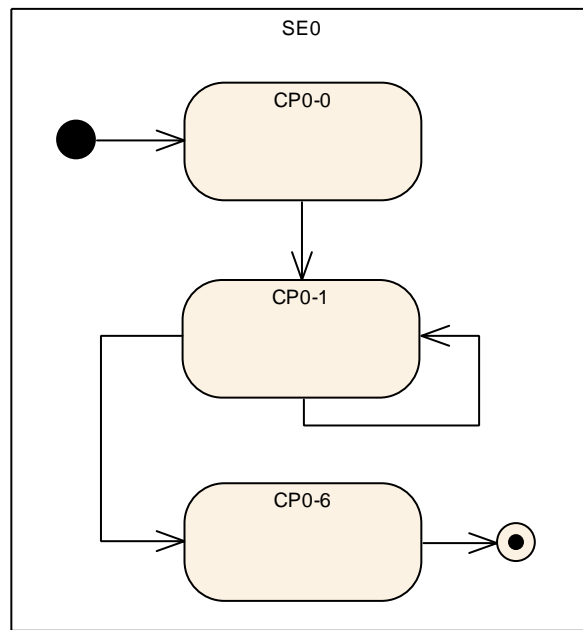

**Figure 9: Example Control Flow Graph**
**[WDGM285]** [If the function `WdgM_Init` [\[WDGM151\]](#) was successfully called then the function shall change the *Global Supervision Status* to WDGM\_GLOBAL\_STATUS\_OK (see Transition (13) in Figure 9). ] ()
**[WDGM286]** [If the *Global Supervision Status* was WDGM\_GLOBAL\_STATUS\_OK and the function `WdgM_DeInit` [\[WDGM261\]](#) was successfully called function shall change the *Global Supervision Status* to WDGM\_GLOBAL\_STATUS\_DEACTIVATED (see Transition (14) in Figure 9). ] ()
**[WDGM139]** [If a call to `WdgIf_SetMode` fails (see chapter 7.10.2), function shall assume a global supervision failure and set the *Global Supervision Status* to `WDGM_GLOBAL_STATUS_STOPPED`. (see Transition (12) in Figure 9)
This *Supervised Entity* can be represented by the *Graph* shown by Figure 9.